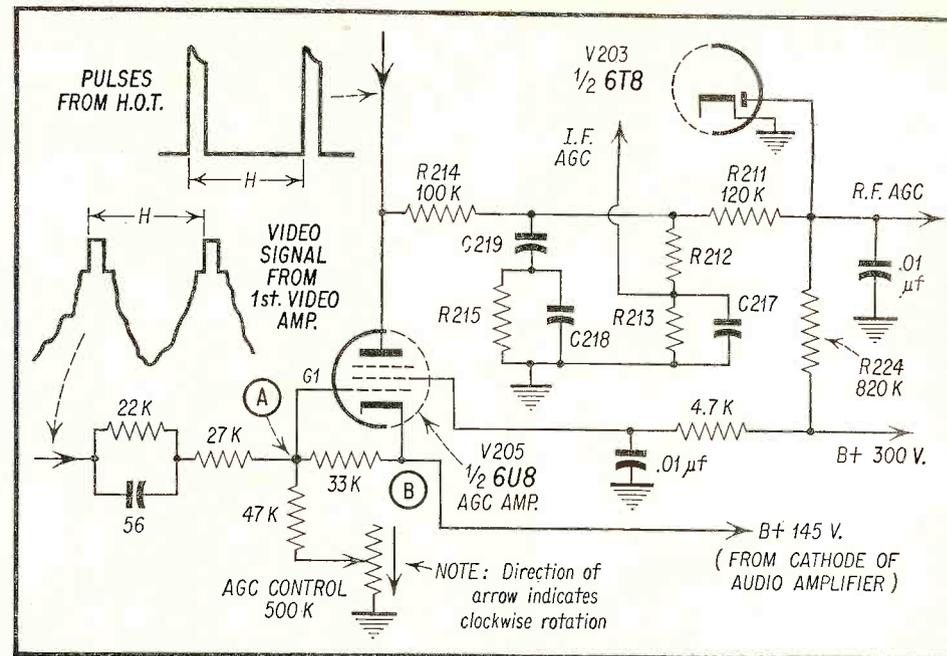
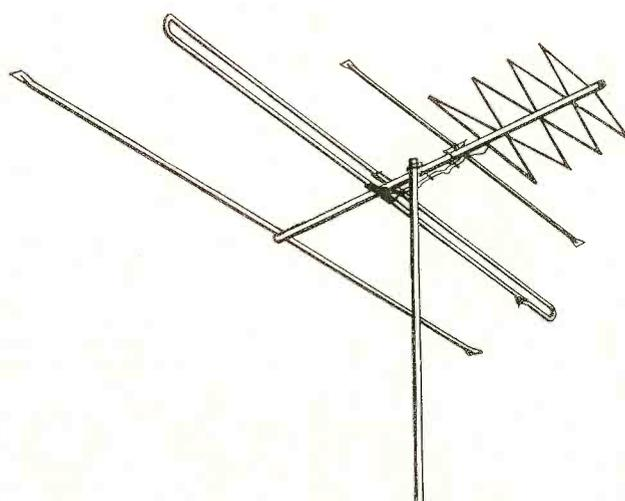
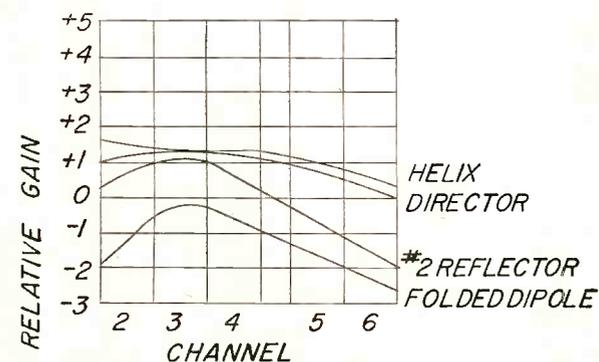

Fig. 2—Simplified schematic of AGC circuit used in RCA color receiver.
Fig. 2—The Junior-Helix, Model JX311, designed for average strong signal metropolitan areas.
Fig. 3—The reflector in the Junior Helix serves to bring up the gain on Channel 2.
A typical *agc* circuit used in color TV receivers is shown in Fig. 2. The video signal from the first amplifier is fed into G1 of V205 via the parallel combination comprising the 22K resistor and 56 μmf condenser, both in series
Relative output *agc* voltages produced by a given signal amplitude for different settings of the *agc* control are shown in Fig. 3. The net *dc* operating points shown at (A) and (B) are the resultant grid to cathode voltages developed by the combined setting of the *agc* control, the plate voltage of the video amplifier, and the reference supply voltage (in Fig. 2 it is 145 volts).
In weak signal areas, the best setting of the *agc* control corresponds to (A) of Fig. 3. Under these conditions little plate current swing and corresponding *agc* bias is developed. In strong signal areas, the best setting of the *agc* control is in the vicinity of point (B). Under these conditions the *agc* sensitivity is much higher than at (A), and the same value of incoming signal will produce higher *agc* voltages than at (A). Thus, a strong signal will produce a very high
The first antenna in the NCB series is the Junior-Helix, model JX311 (Fig. 2). This was designed for use in average strong-signal metropolitan areas. The Junior-Helix uses a 4-turn helix for the high band. The low band element is a 300 ohm dipole cut for the video carrier of Channel 3. The reflector brings the gain up at Channel 2 (Fig. 3). The looped element in front of the folded dipole has a dual function. On the low band, it acts as a Channel 5-6 director, flattening the gain curve. On the high band, it acts as a